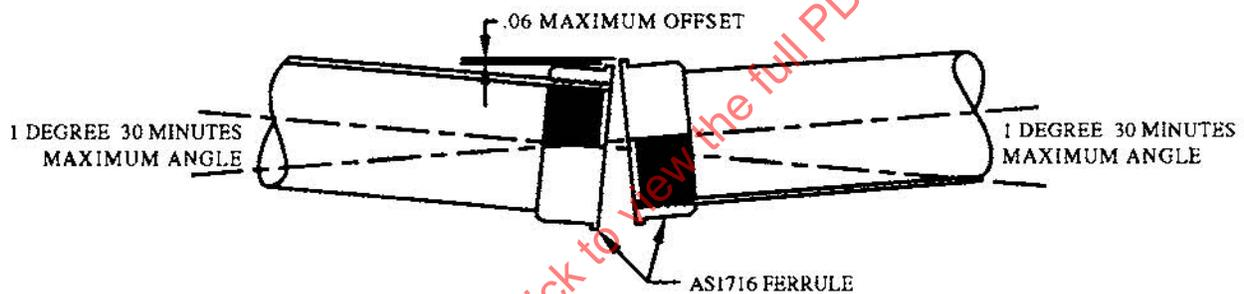

FIGURE 3 - Alignment of Tube Ends
- a. Prior to assembly of coupling components, verify that axial alignment of the duct ends is within  $1^{\circ} 30 \text{ min}$ , as illustrated in Figure 3.
- a. Prior to assembly of coupling components, verify that axial alignment of the tube ends is within  $1^{\circ} 30 \text{ min}$ , and .06 maximum offset as illustrated in Figure 3.